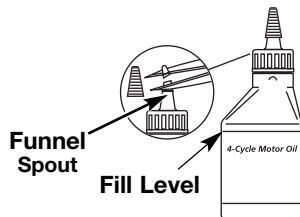

Fig. 9
Your unit is supplied with one 3.04 fluid oz. (90 ml.) bottle of SAE 30 SF, SG, SH oil (Fig. 9).
NOTE: Save the bottle of oil. It can be used to measure the correct amount during future oil changes (Fig. 9). See *Changing the Oil*.
1. Unscrew the top of the bottle of oil and remove the paper seal covering the opening. Replace the top. Next, cut the tip off the funnel spout (Fig. 9).